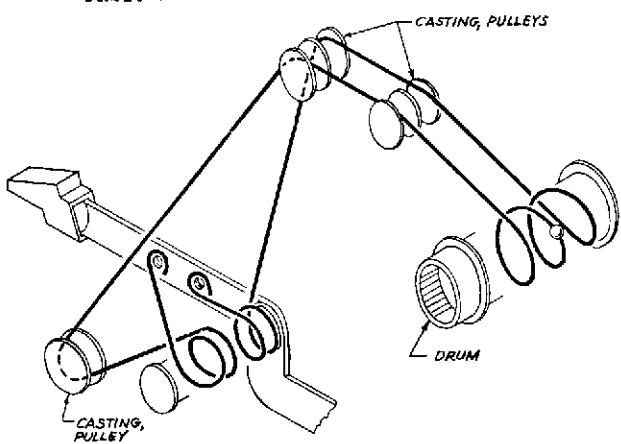

Figure 3-26. CABLE LACING DIAGRAM
- (4) Wrap front cable (longest) 1 3/4 turns counter-clockwise around cable drum and lay it into the front groove of the pulleys (Fig. 3-26). Secure cable to control lever.